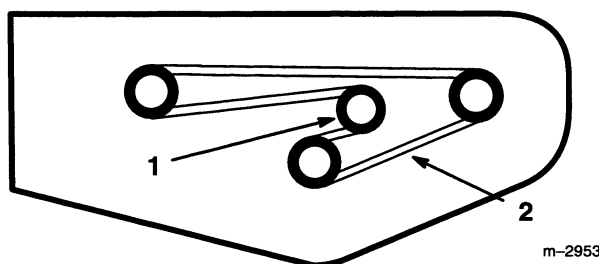

Figure 30
3. Push on idler to release tension and remove the belt from the pulleys (Fig. 30).
1. Install the new belt around the blade pulleys and the idler pulley (Fig. 30).